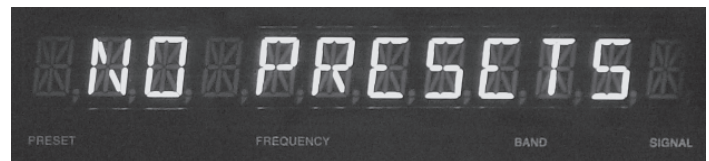

Figure 2
*Note: The PRESET Selection Switch will not access Station Presets that have been left blank. If no Presets have been assigned, the Front Panel Display will show “NO PRESETS” until at least one station has been entered into memory. Refer to figure 2 below.*